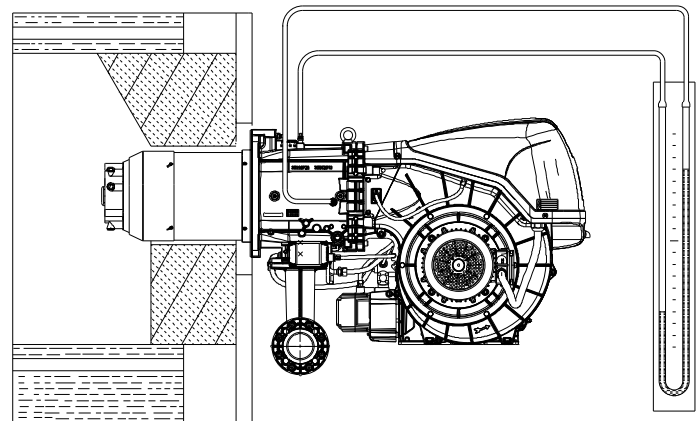

Fig. 27
- Fit a U-type manometer (Fig. 27) to the gas pressure test point on the sleeve. The manometer readings are used to calculate MAX. burner power using the Tab. L on page 23.